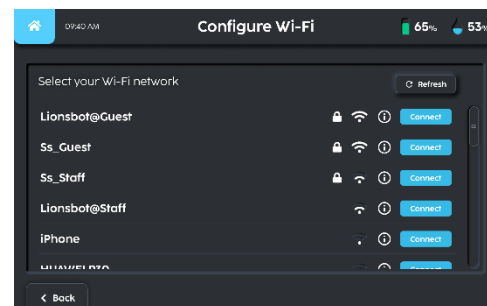

Fig 4
4. Select the network to configure or connect too (Fig 4).